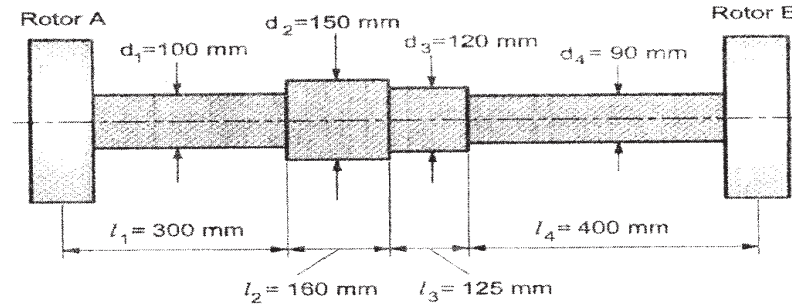

Fig 3.
- b) A shaft shown in fig. 3 carries two rotors A and B. The mass of rotor A is 300 kg with radius of gyration of 0.75 m, while the mass of rotor B is 500 kg with radius of gyration of 0.9 m